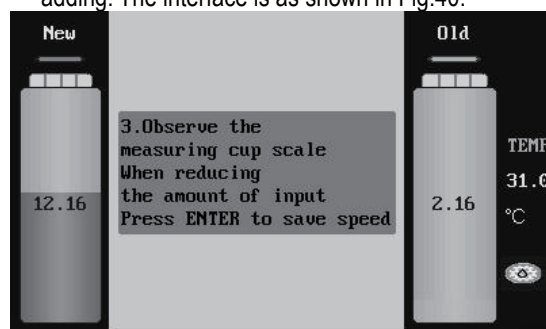

Fig.40
- 13) According to the prompts on the interface, enter the amount (such as 0.3L) of detergent to be added into the system, and then press ENTER key to start adding. The interface is as shown in Fig.40.